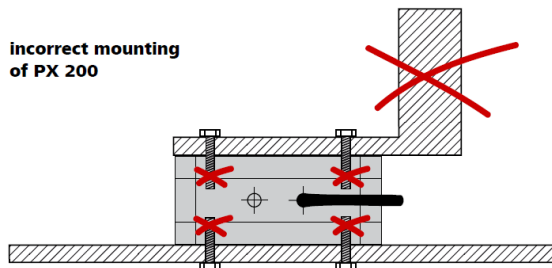

fig. 3: incorrectly mounted load and screws blocking the motion
- Loads need to be placed onto the stage with their center of mass close to the stage (fig. 3).
- Use screws with the proper length. If the screws are too long they can block the movement or even damage the stage (fig. 3). Screw hole depths can be found in the stage drawings.